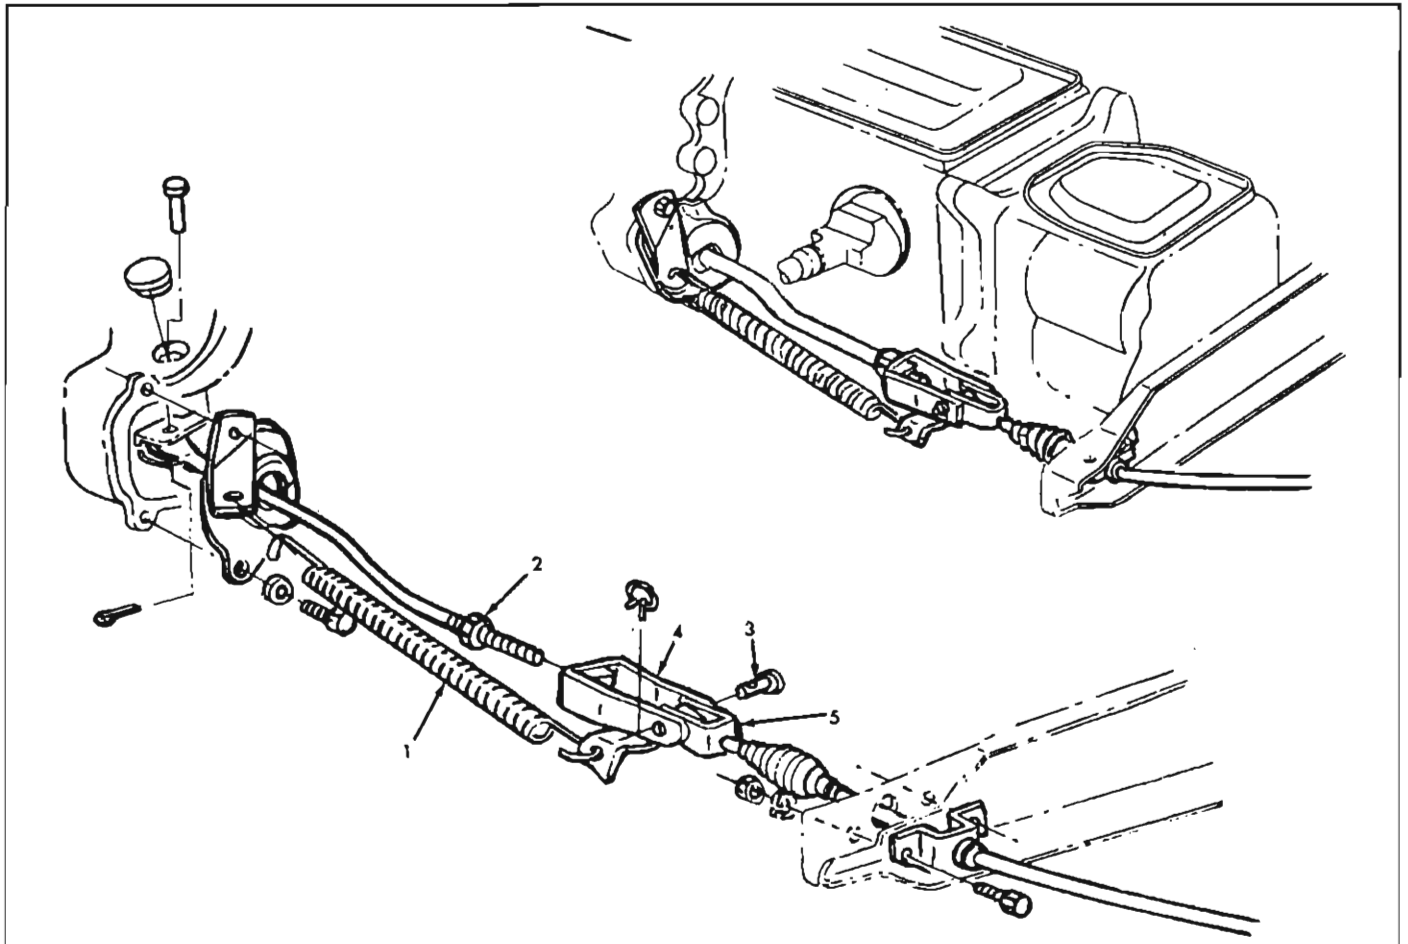

Fig. 4—Clutch Linkage (R-10)
The R-10 rear clutch linkage (fig. 4) is changed (1963 and 1964) to eliminate the idler lever and reposition the rear of the control cable housing through the transmission support.
**CLUTCH LINKAGE ADJUSTMENT****(R-10 Models) Figure 4**
2. Disconnect rear clutch return spring (1) and loosen clutch pull rod clevis lock nut (2).
3. Disconnect clutch fork pull rod from control cable by removing clevis pin (3).
4. Pull rearward on cable clevis (5) to insure all slack is out of system from clevis forward.
6. With cable and rod held in this position, adjust pull rod clevis (4) to align pin holes with pin holes in cable clevis, then back-off (lengthen pull rod) clevis  $3\frac{1}{2}$  turns and tighten lock nut.